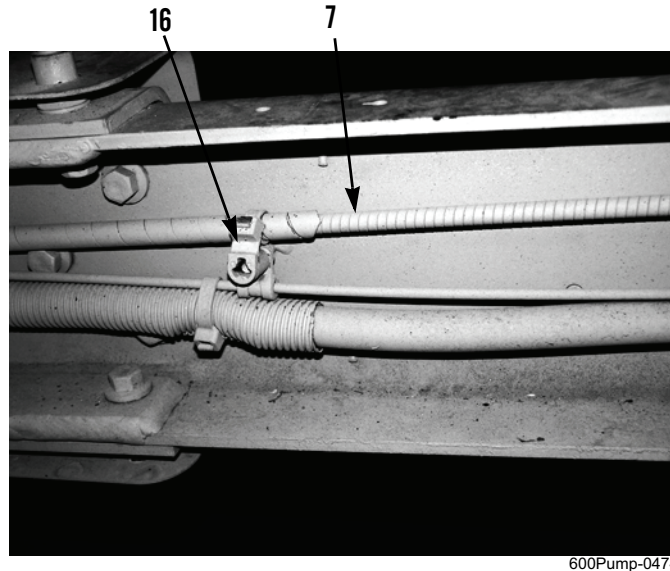
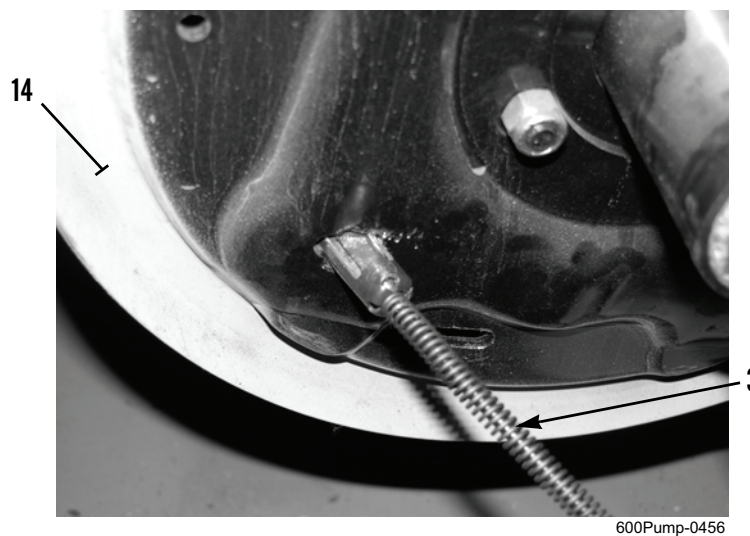

Figure 5. Hand Brake Cable Sheath Along Trailer Frame.
Figure 6. Hand Brake Cable.
6. Remove two clamps (Figure 5, Item 16) to release hand brake cable and cable sheath (Figure 5, Item 7) from trailer frame. Discard clamps.
1. Position hand brake cable sheath (Figure 5, Item 7) along trailer frame, between backing plate (Figure 6, Item 14) and hand brake lever mounting location.
2. At backing plate (Figure 6, Item 14), feed hand brake cable (Figure 6, Item 3) through backing plate.
4. Secure hand brake cable sheath (Figure 5, Item 7) to trailer frame with two new clamps (Figure 5, Item 16).